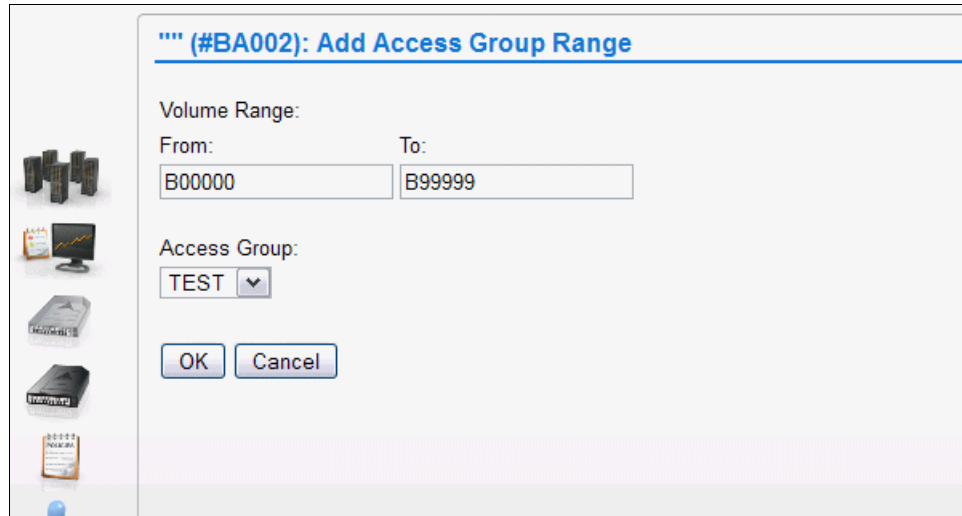

Figure I-15 Add VOLSER range for TEST LPAR
- Define logical volume ranges to the access groups as shown in Figure I-15.